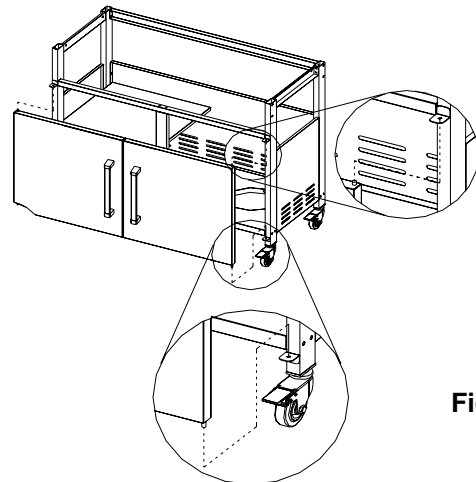

Figure 10
5. Assemble door handles to doors with (4) 5/32 x 3/8" Phillips head screws and (4) 5/32" lock washers. Insert right door bottom hinge pin into hole in door bottom bracket on cart. Push down on top door hinge pin to insert it into hole in door top bracket on cart. Repeat for other door. (Fig.10)